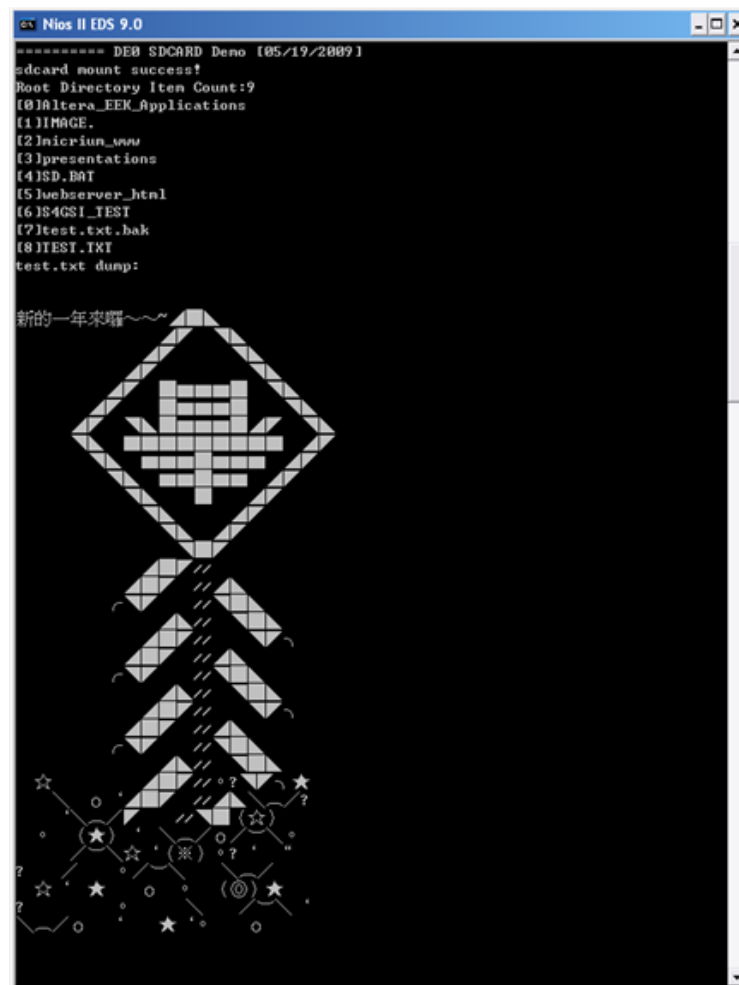

Figure 5-4. Display SD Card Information for the SD Card Demonstration
- The program will display SD Card information, as shown in Figure 5-4.